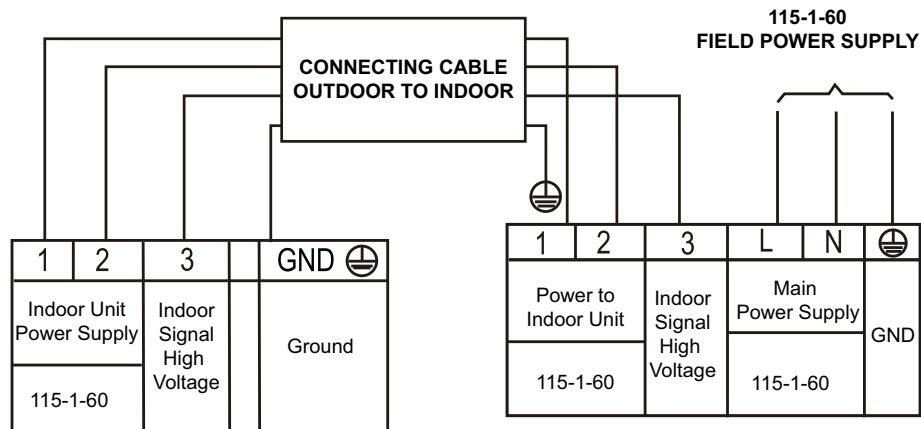

Fig. 1 — Connection Diagram Sizes 09K - 12K (115V)
2. All connections between the indoor and outdoor units **must** adhere to the connections shown in Figures 1 and 2. The connections are polarity sensitive and improper wiring **will** result in a fault code.